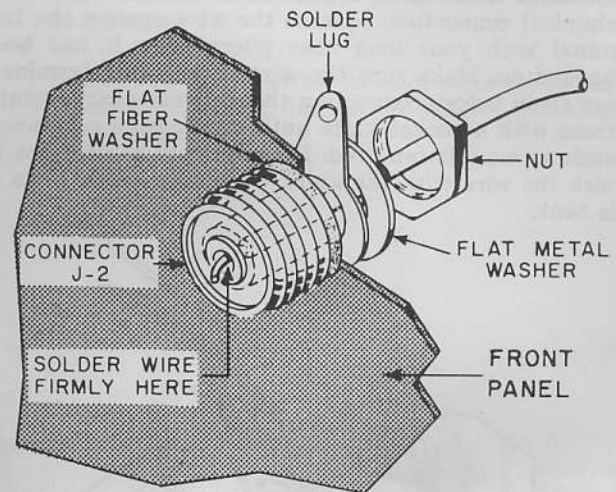

FIGURE 4. HOW TO MOUNT THE CHASSIS CONNECTOR
- () Mount J-2, the chassis connector in the large hole in the lower center of the panel. This connector is supplied with a shouldered fiber washer. Take this washer off and throw it away. Place the flat fiber washer over the small threaded end of the connector. Scrape the paint from around this hole on the rear of the panel. Insert the small threaded end through the hole in the panel. Place the solder lug and the flat metal washer on the connector and tighten the nut securely. See Figure 4.